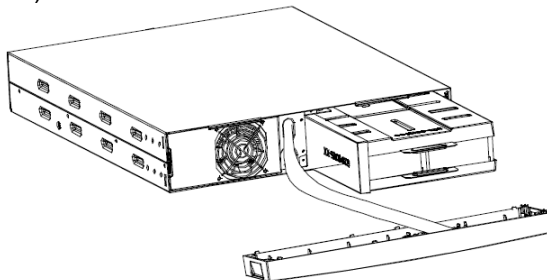

Figure 14: Removing the battery module insert
4. Carefully pull out the battery module insert by the handle (see Figure 14)